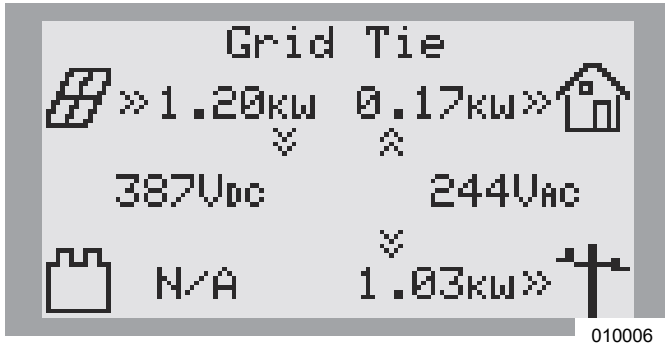

Figure 6-2. Inverter Power-Up
See Figure 6-2. On power-up, the home screen will appear on the control panel LCD with the operational mode listed at the top of the home screen.
1. See Figure 6-2. While viewing the home screen press the center button.